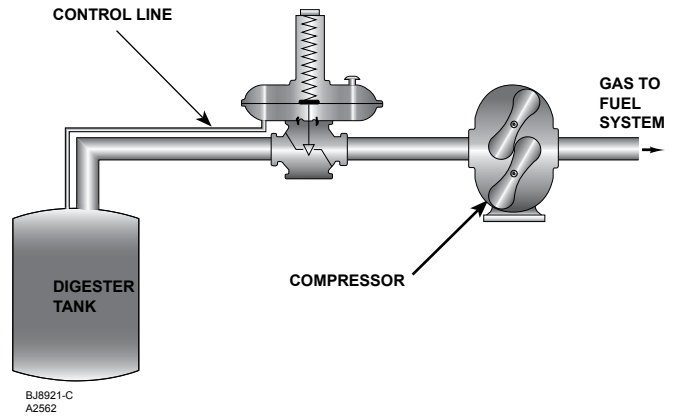

Figure 3. Type 66R Relief Valve Installation at Outlet of Sewage Treatment Plant Digester Tank
4. An upstream control line is not required for a standard Type 66R relief valve with internal registration through a stem guide (key 41, Figure 6). However, for an optional Type 66R relief valve with sealing diaphragm (key 14, Figure 6), connect a control line to the 3/4-inch NPT tapped connection boss on the diaphragm case (key 3, Figure 6) as shown in Figure 3.